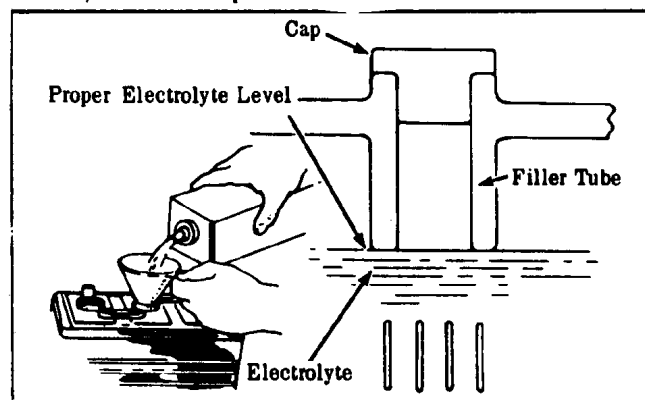

Figure 17
1. **BATTERY**- Check the water level of the battery by removing each of the six caps. If the level is below the bottom of the filler tube (See Fig. 17), use a paper cup and fill with distilled water.